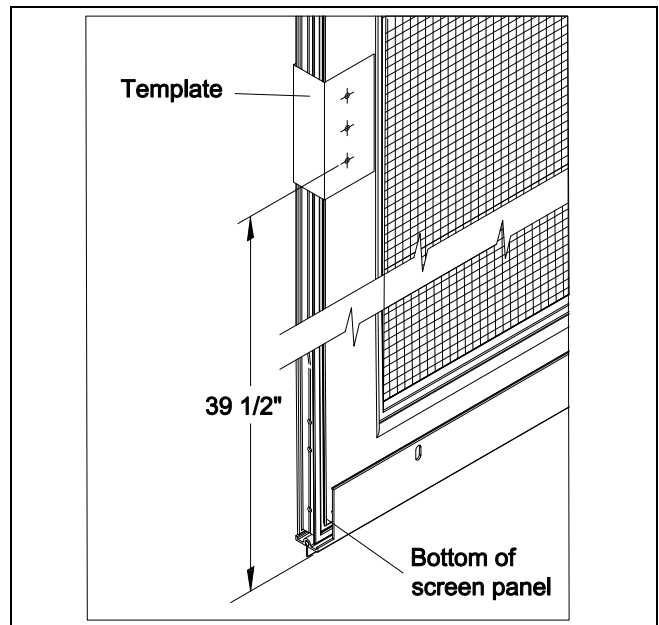

Figure 8
1. Measure 39 1/2" (1003) from the bottom of the primary screen panel at the latch stile (do not include expander). Position hole pattern template with the bottom hole position aligned with previous mark. Mark hole centers of the three holes on both sides. See figure 8. *Note: Hole template is two-sided for X and XX screen locations.*